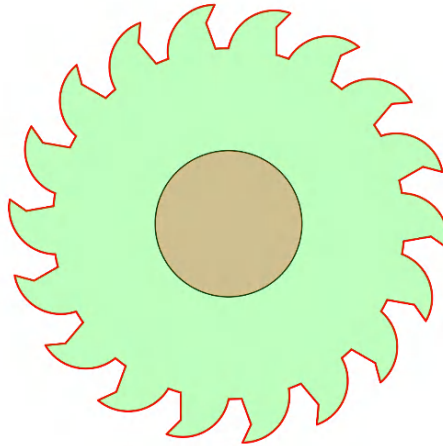

Figure 6.10: The circle is highlighted brown, indicating it will be subtracted
9. Select the circle representing the circular hole in the saw plate. It is now highlighted in brown, indicating it will be subtracted from the saw tooth area, as shown in *Figure 6.10*.